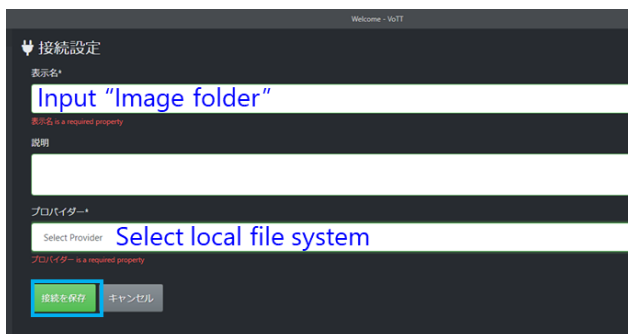

Fig.4.4 Source connection settings
- (d) You should see the connection settings shown in Figure 4.4. For the display name, enter a name that identifies the folder where the thermal images are stored, such as Image folder.
(k) When you return to the project setting screen, in the column under ④ "Source connection" in Fig. 4.6, set the folder to the Image folder set in Fig. 4.4.